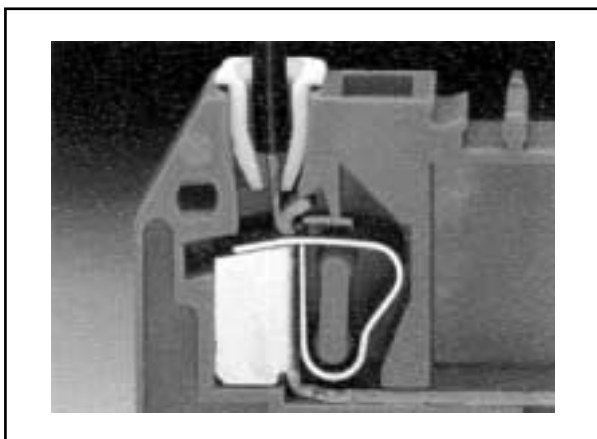

Fig 4 WAGO 231 cross-section
- should be completely covered by the blade of the screwdriver (refer to Fig 4 which shows the internal clamp construction).